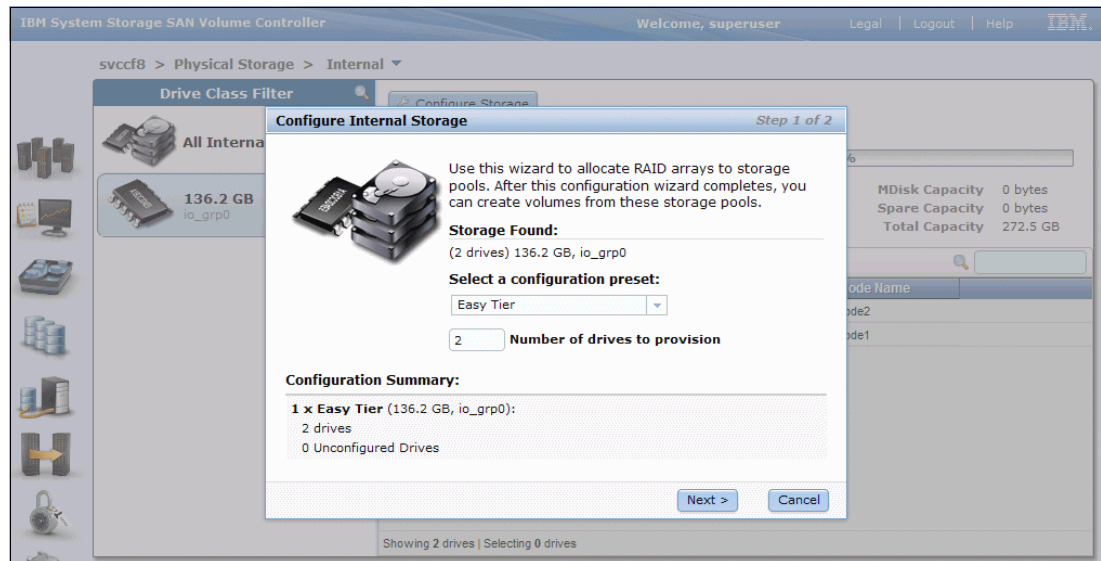

Figure 16-11 Configuration Wizard confirmation
- b. Confirm the number of SSDs (see Figure 16-11 on page 566) and the RAID preset.